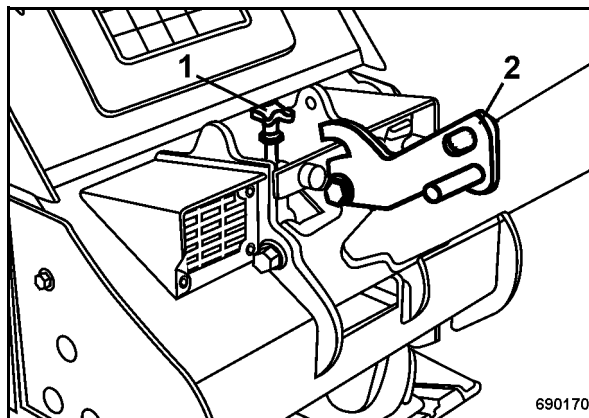

Fig. 17
- Pull the locking pawl lever (2) (Fig. 17) and lower the steering rod, so that it can swing freely.
- Adjust the steering rod with the height adjustment (1) to the height of your body.